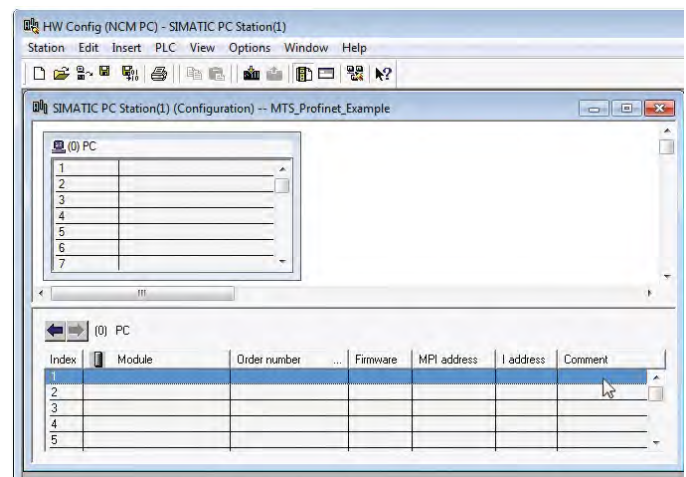

Fig. 55: Module HW Config (source: Siemens)
4. Double-click “Configuration” with the “Station” selected to open the window “Module HW Config” to determine the network and sensor configuration (Fig. 55).